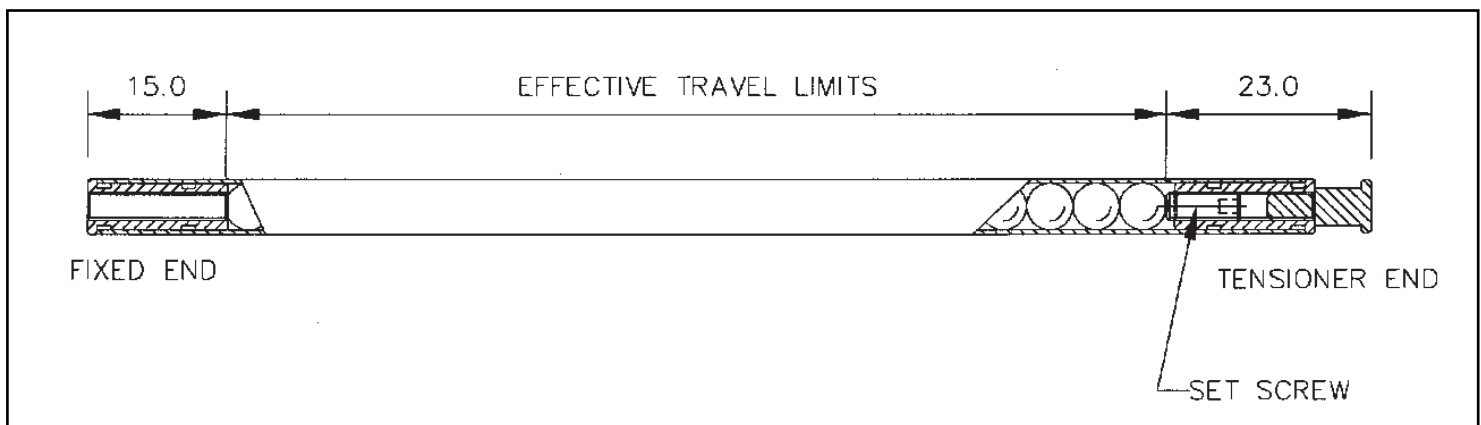

Figure 5.6 - Microsyn Serial Scale
- (A) Erroneous readings will occur if the Microsyn Reader Head is allowed to travel beyond Effective Travel Limits. (Refer to Figure 5.6)
- (B) The pre-load on the balls are factory set via the set screw at the tensioner end. Do not tamper with or adjust the set screw as this will alter the calibration and accuracy specification of the scale and void the warranty.